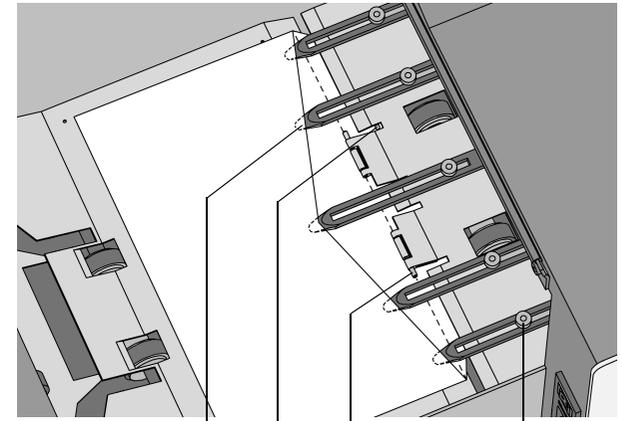

Fig. 22
Press key 1 in the "test run" menu to bring one envelope onto the insert table. Lift the locking lever of the loc and pull the loc into the vertical position. The flap folding line must be positioned under the green indicator C (fig. 22). If necessary adjust the
To adjust the insert fingers A (fig. 22) (5 in total) loosen the knurled knob D on top of each finger.
*When adjusting the fingers sideways, be sure that finger A (fig. 22) is not positioned over sensor B. When an incorrect finger position is adjusted the display shows an error screen.*